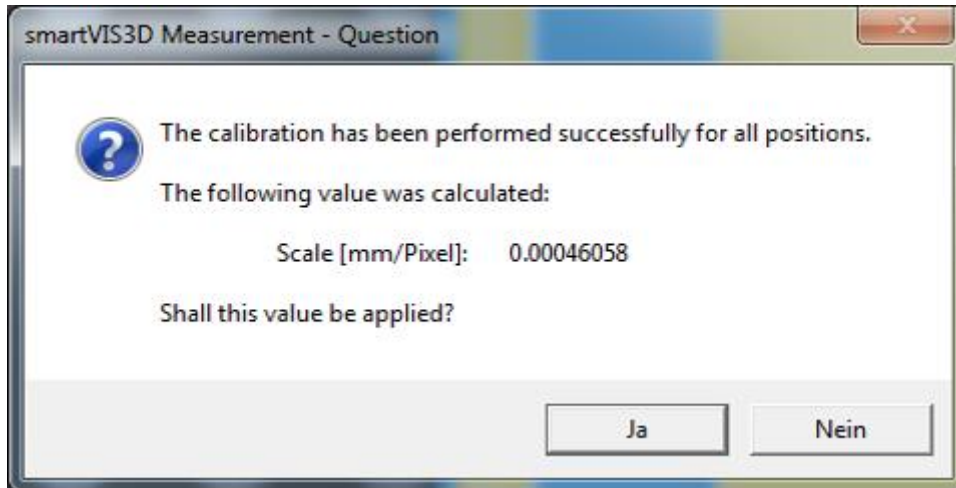

FIGURE 35: SEVENTH INSTRUCTION DIALOG OF THE CALIBRATION PROCEDURE
- e. After the third and last series of calibration measurements are completed the dialog shown in Figure 35 will be automatically opened. In this dialog you will be notified that all required calibration measurements have been completed and that a new length scale corresponding to the selected objective and software settings has been determined, e.g. in Figure 35 the length scale value is approximately 0.00065 mm. If you want to apply the new length scale setting click the “YES” button, if not than the “NOT” button.